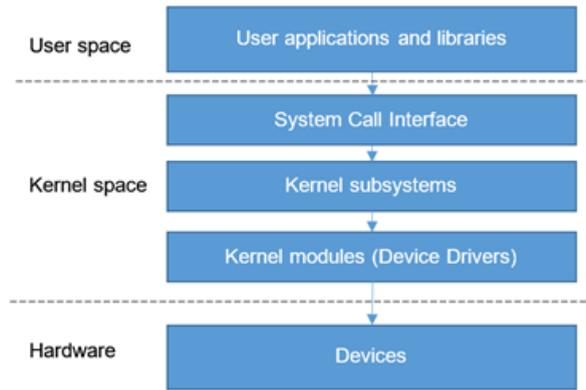

Figure 3 - Layers of a Linux OS
Before running the DAQ system, an **overview on the communication between the software and the hardware layers and an introduction to the role of device drivers**, is fundamental to understand. *Figure 3* shows a simplified diagram of the Layers of a Linux Operating System (OS).